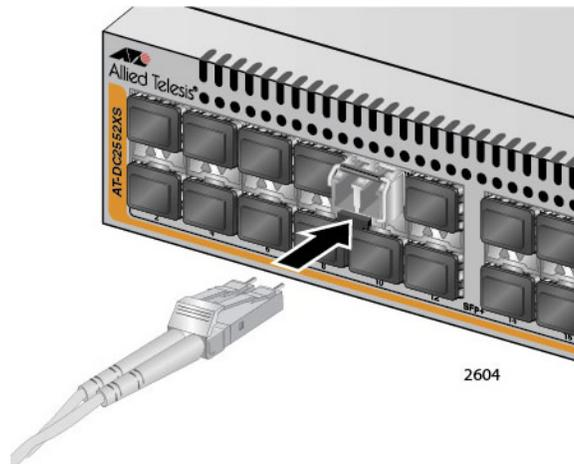

Figure 28. Attaching a Fiber Optic Cable to an SFP+ Transceiver
- Refer to Table 9 on page 56 for the recommended fiber optic cable. Insert the cable to the port on the transceiver, as shown in Figure 28, until it snaps in place.